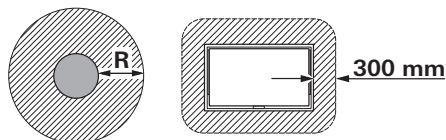

Fig. 9
- The wall cowl is to be fitted in such a way that no tank nozzles or tank ventilation apertures are located within 500 mm (Fig. 9 - R) of it. In addition, no air discharge apertures for the living area or window openings may be located with 300 mm of it.